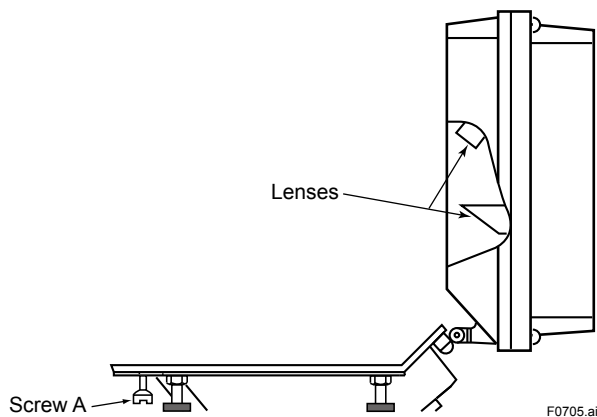

Figure 7.4 Lens Positions
- (1) Select the <MAINT.> mode and turn off the power switch.
- (2) Loosen screw A under the detector cover and open the detector (see Figure 7.4).
- (3) Check whether or not the lenses in the detector (see Figure 7.4) are dirty. If they are, wipe them using, e.g., an applicator. In this case, it is better to soak the applicator in alcohol.
- (4) After cleaning the lenses, carry out zero and span calibrations.
- (5) Finished.